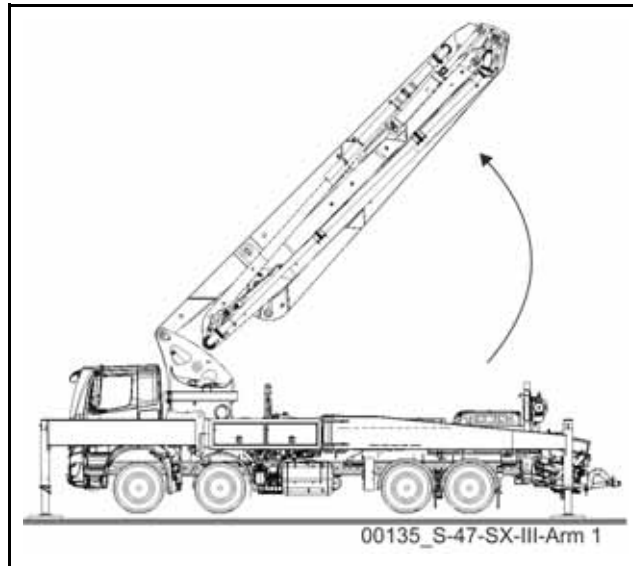

Fig. 172 Boom section 1
- Raise boom section 1 approx. 45° (**Fig. 172**).